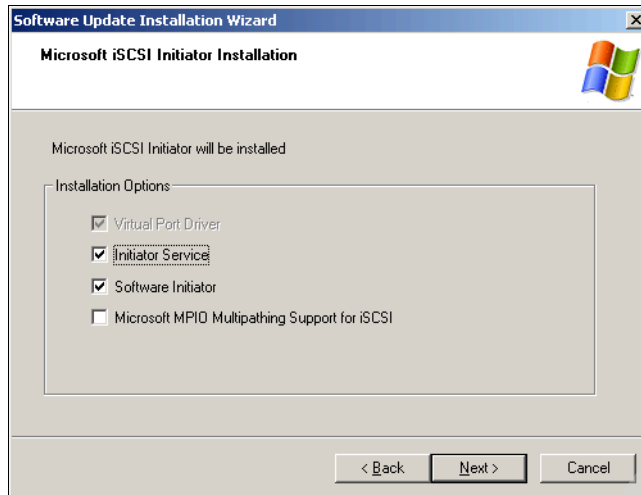

Figure 23-4 Installation options
3. Select **Initiator Service** and **Software Initiator**. See Figure 23-4 on page 549.